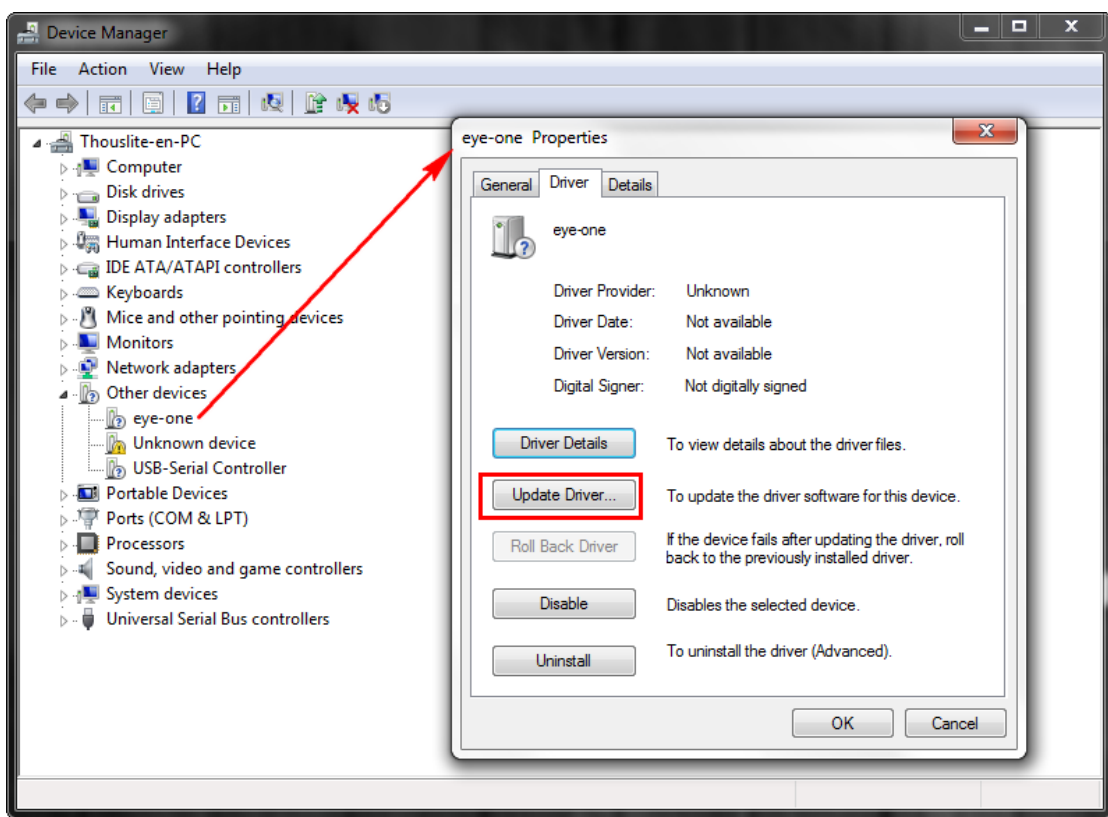

Fig. 3.5 Update the driver of i1 Pro2
- Right click, select “Properties”, and then “Update Driver” of eye-one, as shown in Fig. 3.5;